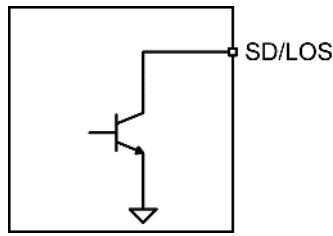

Figure 4. Typical SD/LOS Output Structure
The SY88053CL generates a user-selectable (SD/LOS\_SEL pin) signal detect (SD) or loss of signal (LOS) open-collector TTL output, as shown in Figure 4. LOS is used to determine whether the input amplitude is too small to be considered as a valid input. LOS asserts high if the input amplitude falls below the threshold set by SD/LOSLVL and de-asserts low otherwise. LOS can be fed back to the JAM input to perform the SQUELCH function and to maintain output stability under a LOS condition. JAM de-asserts the true output signal low without removing the input signals. Typically, 4dB LOS hysteresis is provided to prevent chattering.